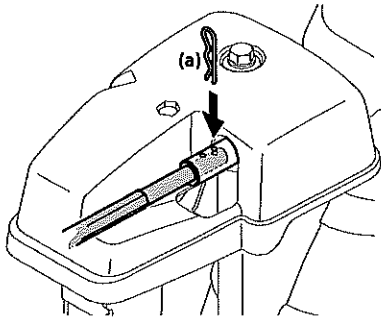

Figure 2-19
7. Push chute control rod toward control panel until hole in rod lines up with hole in chute control input closest to chute control head and insert hairpin clip (a) removed in Step 1. See Figure 2-19.